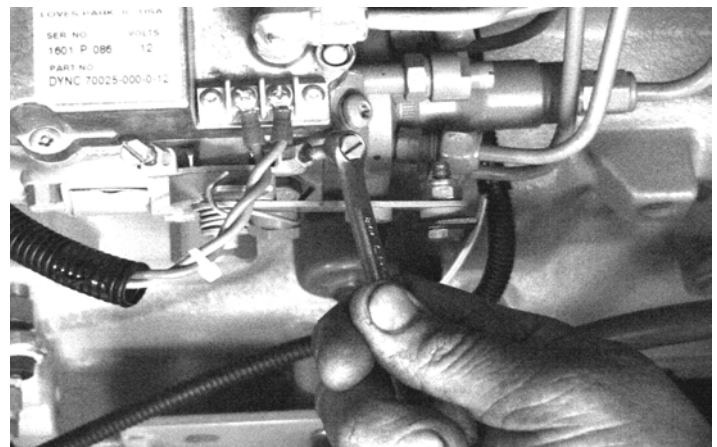

Figure 4 High Idle Adjustment Screw (Adjustment)
4. Using one (1) 8-mm box end wrench turn the "High Idle Adjustment Screw" one (1) complete turn counterclockwise (Figure 4).